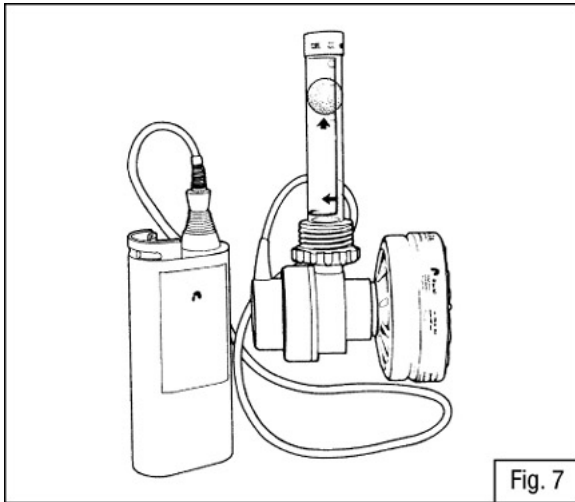

FIG 6
2. Insert the base of the airflow indicator into the outlet side of the blower/filtration unit. (Fig. 6) Turn the battery pack switch to the ON position.